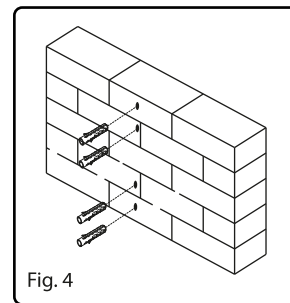

Fig. 4
4. Insert a concrete anchor (C) into each hole so that it is flush with the concrete surface. (see Fig. 4) A hammer can be used to lightly tap the anchors into place if necessary. **NOTE:** If the concrete wall is covered by a layer of plaster or drywall, the concrete anchor must pass completely through the layer to rest flush with the concrete surface.